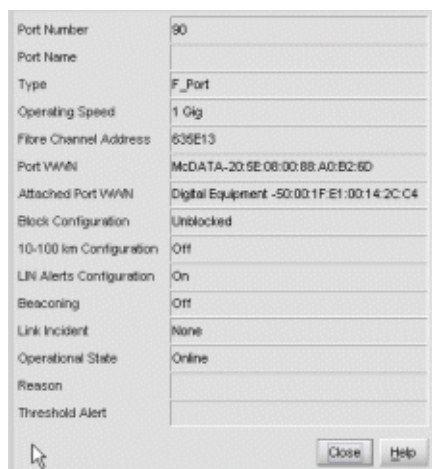

Figure 42: Port Properties dialog box
7. Double-click the graphical port connector used for the fabric ISL. The Port Properties dialog box displays, as shown in Figure 42.